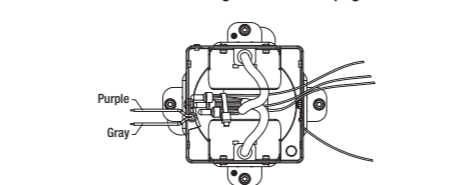

Figure 6
- 0-10V dimmer connection: Connect the two 0-10V dimming wires (Purple+ and gray-) through knockout and connect with compatible 0-10V dimmer (Figure 6). See 0-10v dimming schematic on page 6.